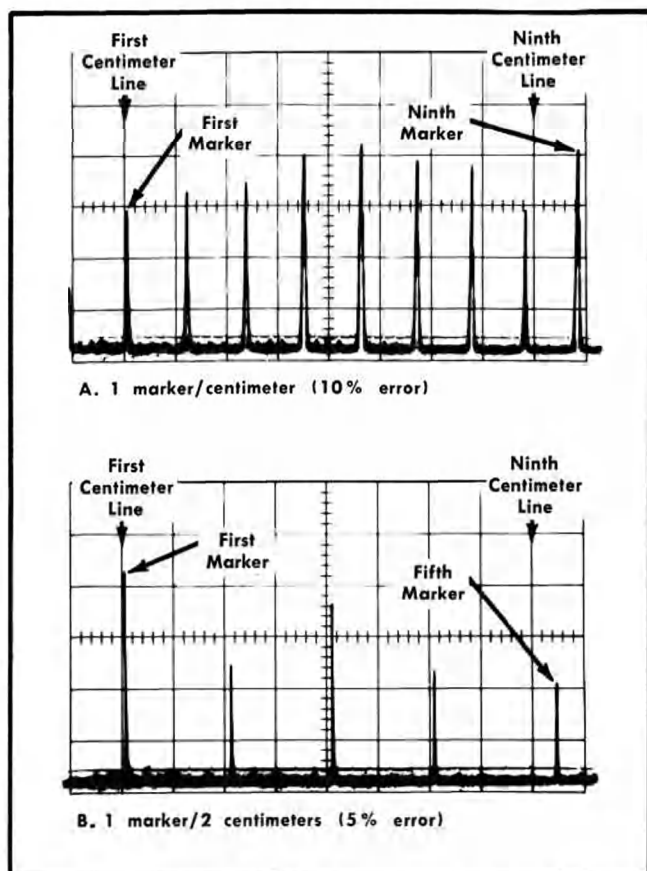

Fig. 5-3. Typical dispersion accuracy displays (step 2).
line, then noting the frequency error as the distance the respective marker is displaced from the 9th centimeter line. See Fig. 5-3.
e. Check the dispersion accuracy and linearity for each MHz/cm setting of the DISPERSION selector as listed in Table 5-1, (see Fig. 5-3 and 5-4). The Horizontal position control or the IF CENTER FREQ control may be used to align the prime markers to the graticule divisions. The RESOLUTION control should remain coupled with the DISPERSION selector.
c. Adjust the GAIN control for a display amplitude of approximately 3 to 4 centimeters. See Fig. 5-3. Set the oscilloscope Source switch to Line and adjust the Level control for a triggered display.